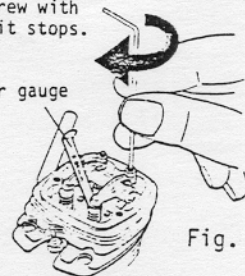

Fig. 39
- 3) Insert 0.04 mm feeler between valve stem and rocker arm, and gently turn adjusting screw clockwise between finger and thumb until it stops. (See Fig. 39.)